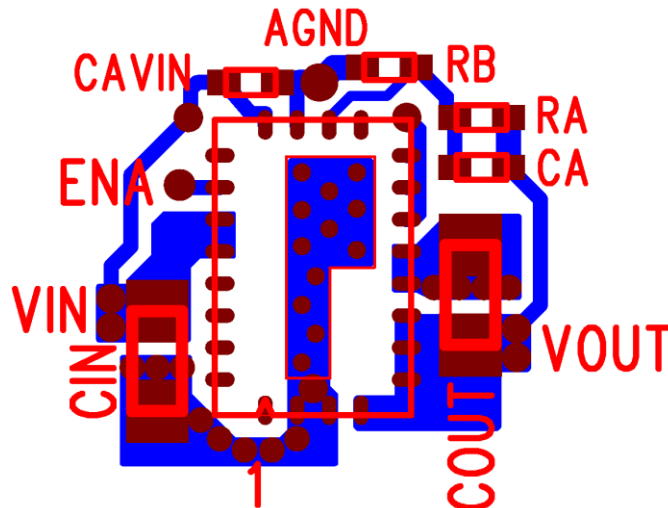

Figure 9: Optimized Layout Recommendations
**Recommendation 5:** AVIN is the power supply for the small-signal control circuits. It should be connected to the input voltage at a quiet point. In Figure 9 this connection is made at the input capacitor. Place a 1 $\mu$ F capacitor from the AVIN pin to AGND right next to device pins.